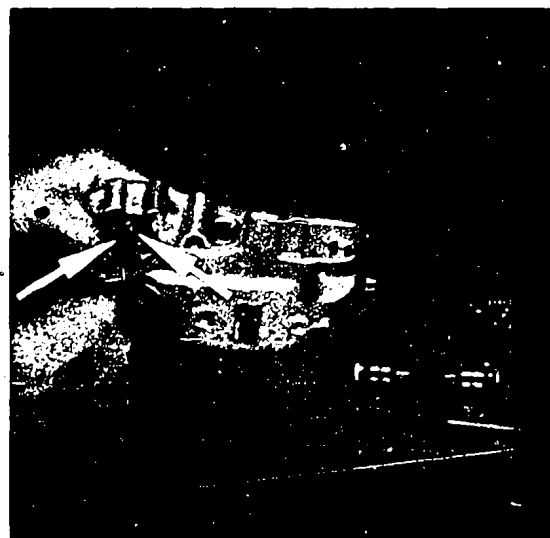
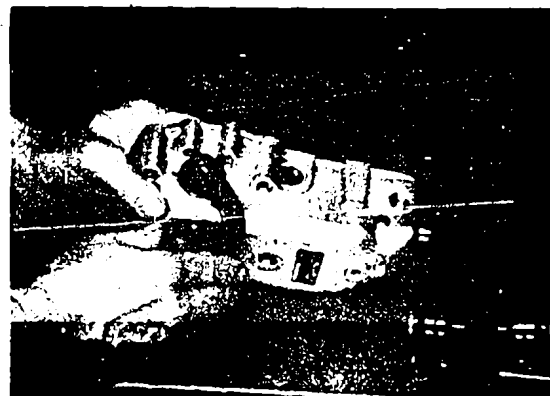

Fig. 33 Insert end of hooked spring into cut-out lever hole
Fig. 34 Insert spindle drive tenons into tenon recesses in cut-out lever
Insert the end of the hooked spring projecting from the spring capsule, into the hole provided for this purpose in the cut-out lever (126) (Fig. 33) and only at this stage allow the spindle (117) drive tenons to engage in the cut-out lever (Fig. 34).